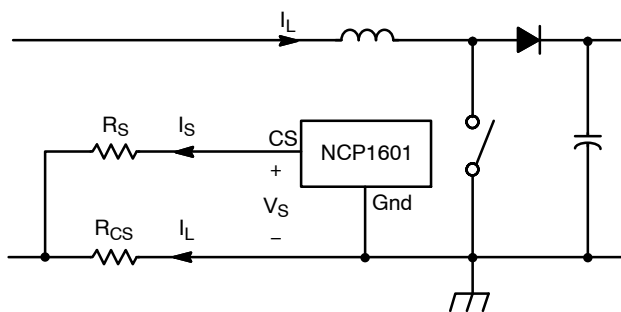

Figure 32. Current Sensing
The device senses the inductor current I_L by the current sense scheme in Figure 32. This scheme has the advantages of: (1) the inrush current limitation by the resistor R_{CS} , and (2) the overcurrent protection and zero current detection implemented in the same pin.
Inductor current I_L passes through R_{CS} and creates a negative voltage. This voltage is measured by a current I_S flowing out of the CS pin (Pin 4). The CS pin has an offset voltage V_S . This offset voltage is studied in the setting of zero inductor current $I_{L(ZCD)}$ and the maximum inductor current $I_{L(OC)}$ (i.e., overcurrent protection threshold). A typical variation of offset voltage V_S versus sense current I_S is shown in Figure 15. Higher the value of the offset voltage at low current region creates lower the zero current threshold for better accuracy. Based on Figure 32, (eq.13) is derived.